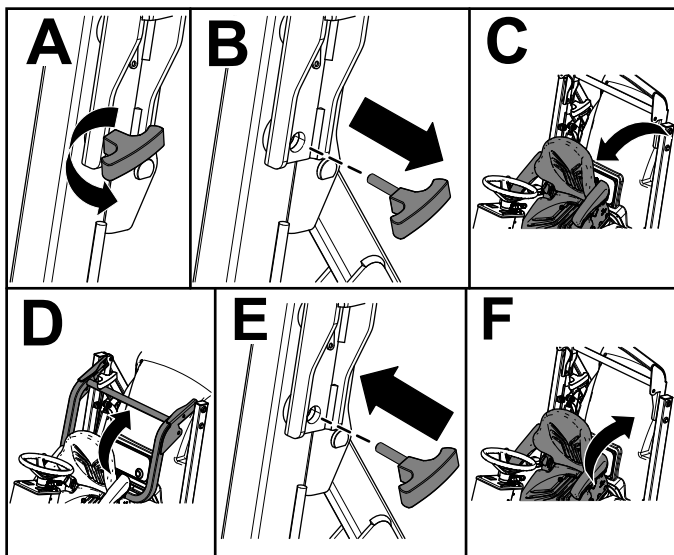

Figure 16
- Tilt the seat forward (Figure 16).
- Remove the knob pins from the roll bar (Figure 16).
- Raise the roll bar and secure it in place with the knob pins (Figure 16).
- Tilt the seat rear to the locked position (Figure 16).